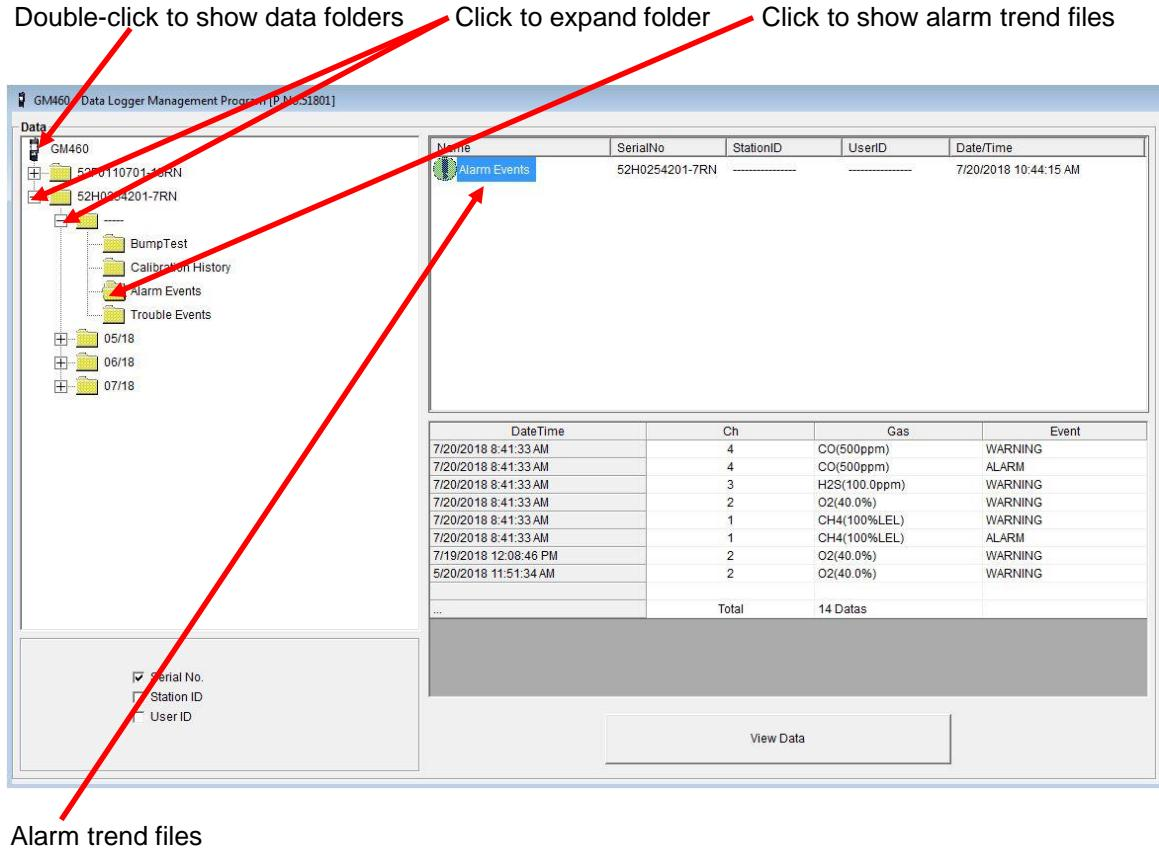

Figure 46: Data Window – Selecting Alarm Trend Data Files
- If you click the **Summary** button, the data window will split into two frames, one above the other, with the data table in the lower frame and the summary information shown in the upper frame. The summary information is the same as the information shown in the lower right frame in Figure 46.
- If you click the **Summary** button, the data window will split into two frames, one above the other, with the graph in the lower frame and the summary information shown in the upper frame. The summary information is the same as the information shown in the lower right frame in Figure 46. To return to the one frame format, click Summary again.